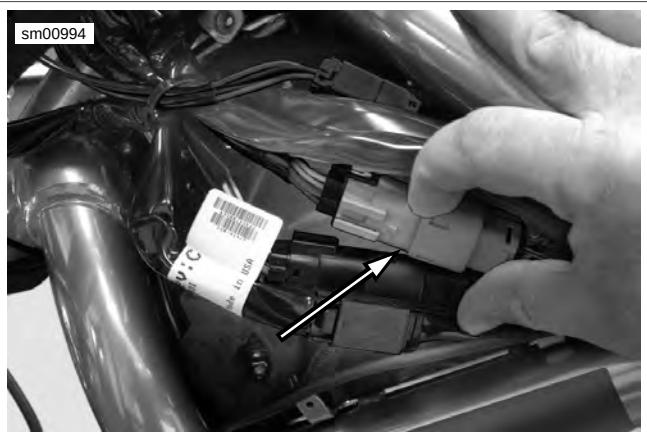

Figure 7-49. Right Switch Housing Connector [22] (typical)
2. See Figure 7-49. If removing the switch housing and wire harness, remove the left side cover and locate the right switch housing connector [22].